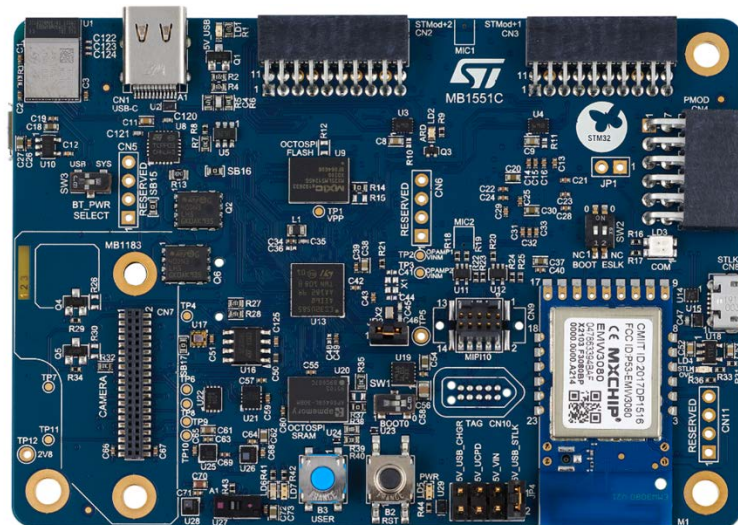

Figure 2. The STMicroelectronics IoT Platform - B-U585I-IOT02A. **Note the Micro-USB port at the right side.**
1. The IoT platform is shown below in Figure 2.